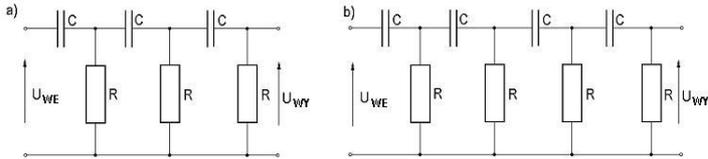

Fig. 10.2
10.3.1 Phase shifter tests (Fig. 10.2).